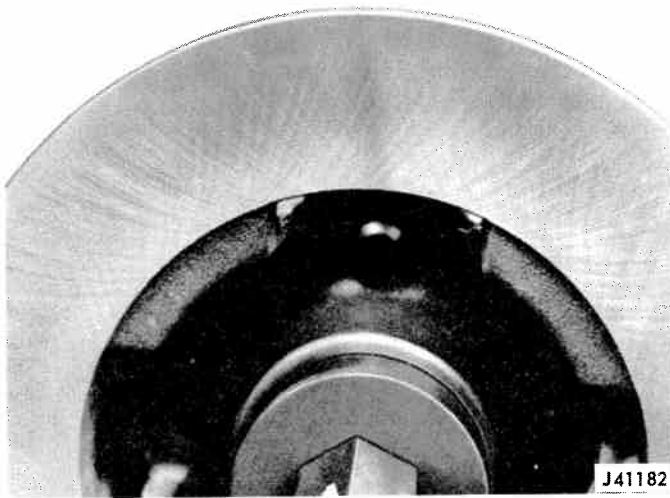

Fig. 9-55 Correct Surface Finish - Non-Directional Cross-Hatch Pattern
**NOTE:** Rotor finish should be 20 to 60 micro-inches and not be directional. After turning the rotor is a disc brake lathe, flat sanding discs should be used as a final step in the refinishing procedure to provide the desired microfinish and cross-hatch pattern on the rotor surface (fig. 9-55).